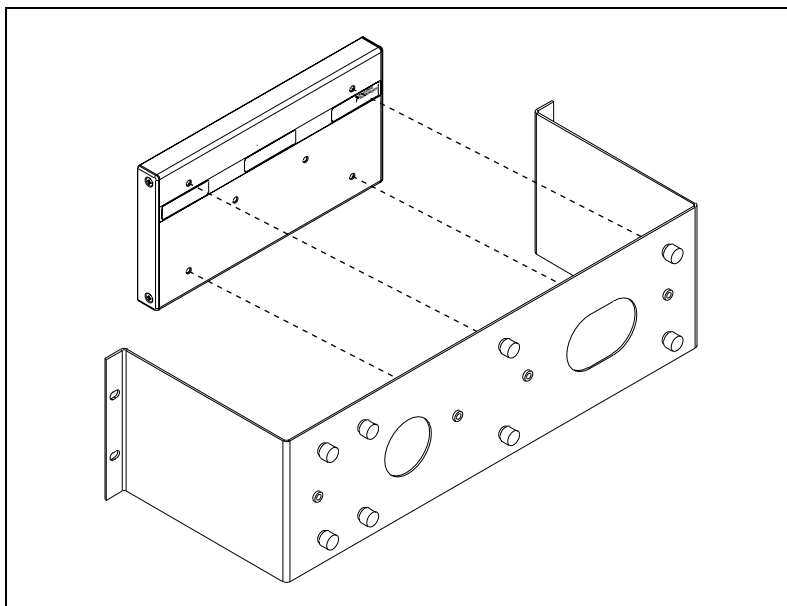

Figure 2-8. Fastening the Rack-Mount Accessory to the cFP-BP-4 Backplane
1. Fasten the rack-mount bracket to the back of the cFP-BP-*x* using the captive screws on the bracket. Refer to Figures 2-8 and 2-9.